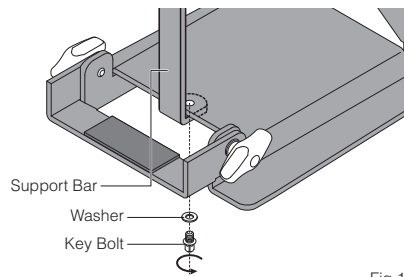
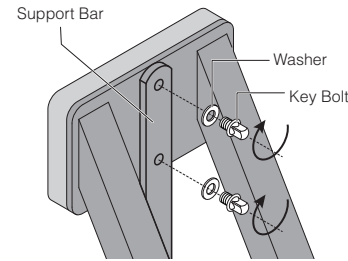

Fig.1
Fig.3
1. Partially raise the Pad on the Base Assembly and turn it on its side to rest on a stable flat surface. Next, place the Support Bar with the angled end under the base assembly. Insert a Key Bolt with Washer through the Support Bar into the threaded hole in the Base. Slightly tighten by turning the Key Bolt clockwise (Fig.1). **Do NOT fully tighten the Key Bolt.**
3. Insert both Key Bolts with Washers through the Support Bar into the threaded holes located on the back of the PAD and finger tighten (Fig.3).
4. Next, firmly secure the Support Bar to the Pad and Base by tightening all three Key Bolts using the Drum Key supplied (Fig.1 & Fig.3).